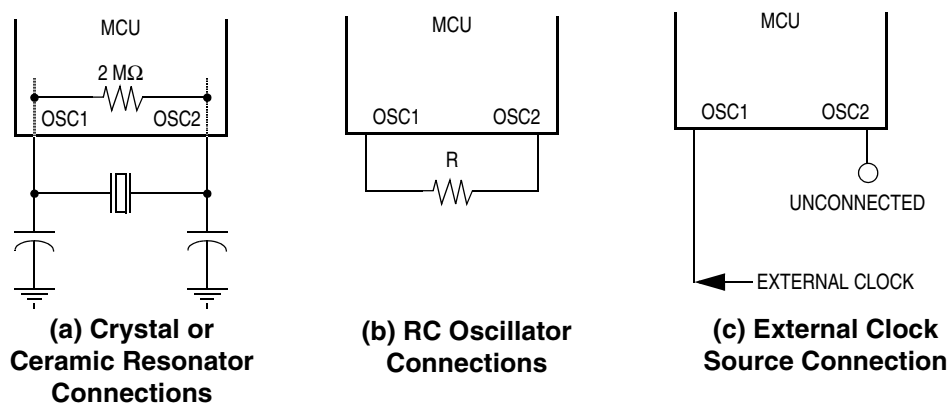

Figure 1-3. EPO Oscillator Connections
- A crystal as shown in Figure 1-3 \(a\)
- A ceramic resonator as shown in Figure 1-3 \(a\)
- An external resistor as shown in Figure 1-3 \(b\)
- An external clock signal as shown in Figure 1-3 \(c\)
The circuit in Figure 1-3 \(a\) shows a typical oscillator circuit for an AT-cut, parallel resonant crystal. The crystal manufacturer's recommendations should be followed, as the crystal parameters determine the external component values required to provide maximum stability and reliable startup. The load capacitance values used in the oscillator circuit design should include all stray capacitances. The crystal and components should be mounted as close as possible to the pins for startup stabilization and to minimize output distortion. An internal startup resistor of approximately 2 MΩ can be provided between OSC1 and OSC2 for the crystal type oscillator by use of the OSCRES bit in the MOR.
In cost-sensitive applications, a ceramic resonator can be used in place of the crystal. The circuit in Figure 1-3 \(a\) can be used for a ceramic resonator. The resonator manufacturer's recommendations should be followed, as the resonator parameters determine the external component values required for maximum stability and reliable starting. The load capacitance values used in the oscillator circuit design should include all stray capacitances. The ceramic resonator and components should be mounted as close as possible to the pins for startup stabilization and to minimize output distortion. An internal startup resistor of approximately 2 M Ω can be provided between OSC1 and OSC2 for the ceramic resonator type oscillator by use of the OSCRES bit in the MOR.
The lowest cost oscillator is the RC oscillator configuration where a resistor is connected between the two oscillator pins as shown in Figure 1-3 \(b\).
An external clock from another CMOS-compatible device can be connected to the OSC1 input, with the OSC2 input not connected, as shown in Figure 1-3 \(c\). This oscillator can be selected via software. This configuration is possible regardless of whether the crystal/ceramic resonator or RC oscillator configuration is used.